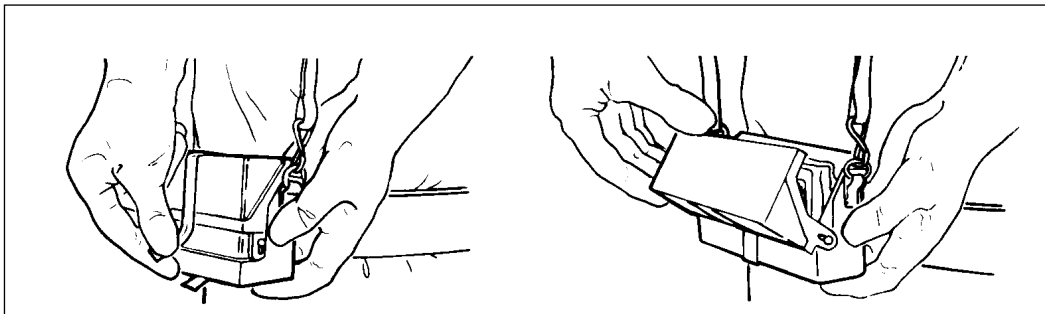

Fig 4-9. Opening detector kit.
- (3) Open the kit.
- (b) Grasp the case top, and pull it up while pulling it away from your body (fig 4-9).